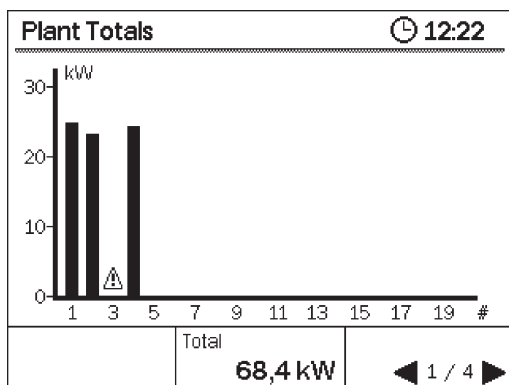

Figure 8-5: Plant Totals screens 1
The Plant Totals (PT) Overview screen shows a bar graph summarizing the performance of the entire PV plant. Each bar represents the actual\* AC power output of one inverter. In case a particular inverter has an error, an exclamation symbol is shown instead of the power bar. See figure 8-5. Below each bar, each inverter is referenced with a number. This number corresponds with the inverter number used in the next Plant Totals screens. In the bottom of the screen, the actual\* sum of all power generated by the plant is shown. Pushing the BACK button has the display return to the Home Screen. Pushing the LEFT or RIGHT navigation button will scroll to the previous/next Plant Totals screen.